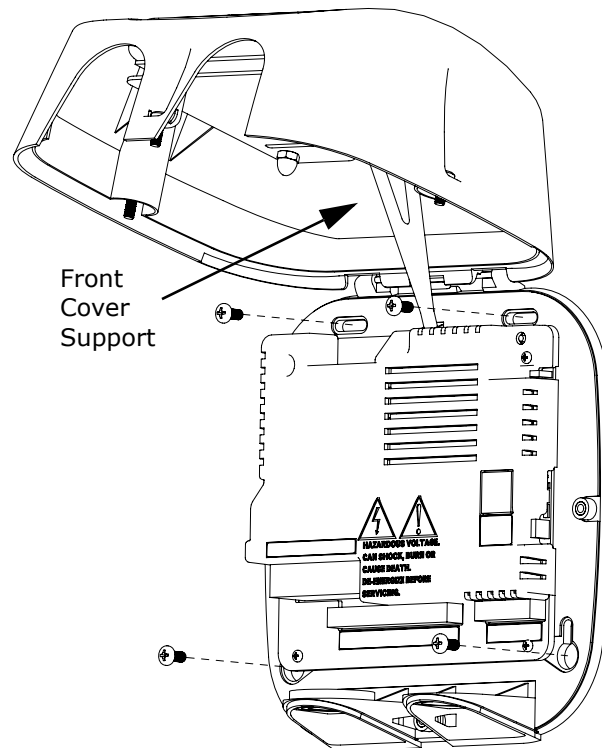

Figure 3.1: EM-3000 Series Meter with Cover Open: see **WARNING!** on previous page
2. **With the submeter power off**, open the top of the submeter. Use the front cover support to keep the cover open as you perform the installation (see Figure 3.1).